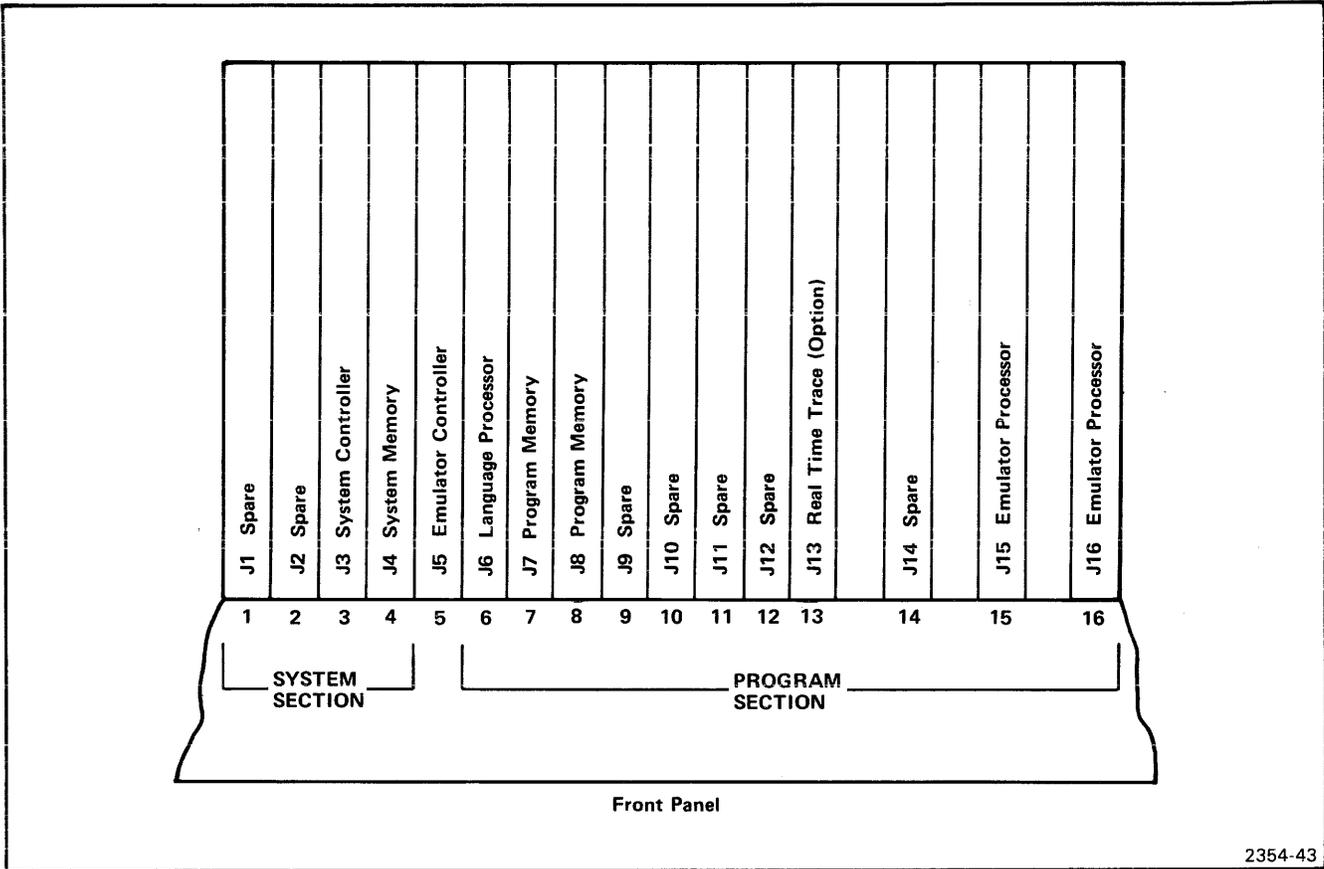

Fig. 3-2. Recommended module arrangement.
5. Guide the module down the vertical channels at either of positions J15 or J16 on the main interconnect board (refer to Fig. 3-2).
13. Guide the module down the vertical channels at either of positions J15 or J16 on the main interconnect board (refer to Fig. 3-2).